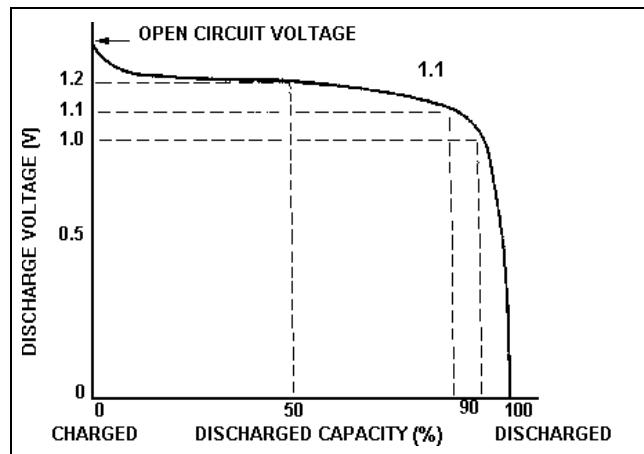

Figure 6 - Typical Cell Discharge Curve
- (1) Discharge the battery pack at a normal discharge rate until the output voltage is approximately 1 Volt per cell. This equals 6 Volts output for the battery packs. Refer to Figure 6. Note the flatness of the discharge curve from 0% - 90%. Experience shows discharging below the "knee" is not necessary.
- (2) Complete a full charge cycle using an Ericsson charger.
- (3) Repeat steps 1 and 2. Performing this deep cycle at least twice should be sufficient to restore battery pack capacity.
- (1) Remove the Control Knob using an M1.5 hex wrench.
- (2) Lift the stop plate using small needle-nose pliers.
- (3) Reposition the stop plate by aligning the raised bar to the channel marking one number higher than the number of positions required. For example, if 8 unique positions are required, align the bar to the "9". See Figure 6. If 16 positions are required, do not reinstall the stop plate.
- (4) Replace the Control Knob and torque the set screw to 3 lb./in. The set screw must align on the flat area of the switch shaft. Test for proper operation.